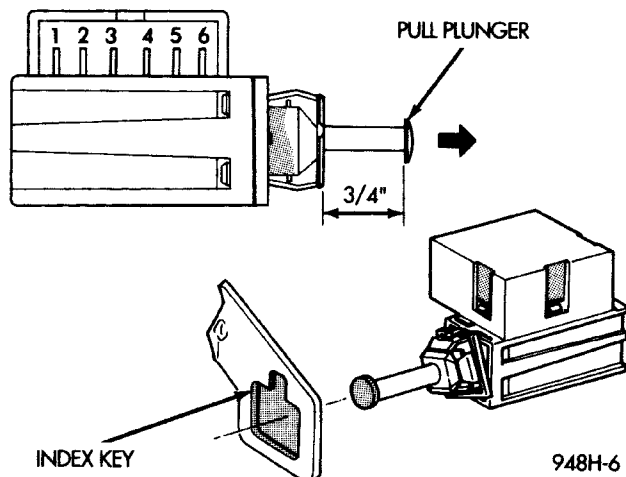

Fig. 8 Stop Lamp Wiring
(1) Remove the stop lamp switch refer to Stop Switch Removal/Installation in this section. Disconnect connector from stop lamp switch (Fig. 8). Using an ohmmeter, switch continuity may be checked as follows:
(2) With switch plunger released, there should be continuity between Pin 5 and Pin 6.
(3) With switch plunger depressed, there should be continuity:
(4) If the above results are not obtained, the stop lamp switch is defective or out of adjustment.
(5) Stop lamp switch adjustment is detailed in Group 5, Brakes.